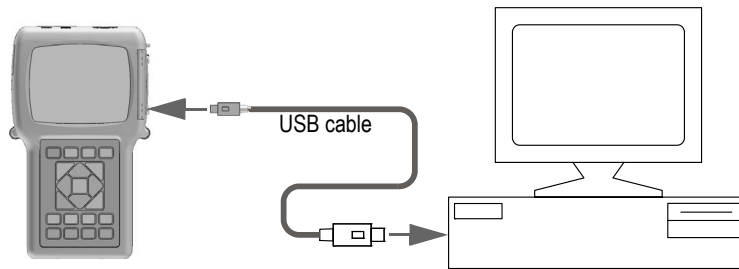

Figure 14-1 Connecting the 38DL PLUS to a computer
8. Connect one end of a USB cable to the USB client connector under the I/O door of the 38DL PLUS, and the other end to a USB port of the computer (see Figure 14-1 on page 243).